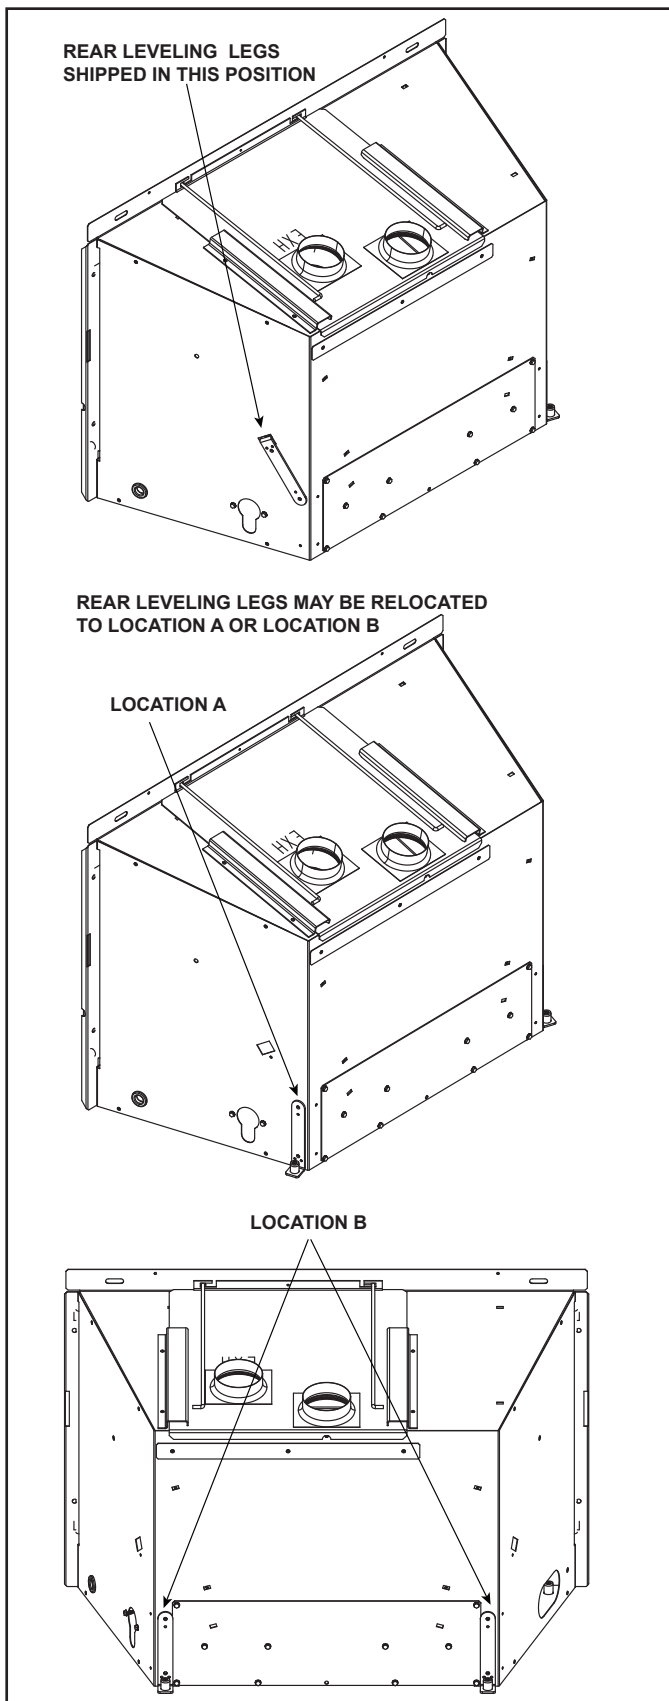

Figure 8.3
- Remove rear leveling legs from shipping position and relocate to one of the positions shown in Figure 8.3. Remove both screws that secure the leveling leg to the side of the appliance. Turn the leveling leg around so that the foot is facing out and downward. Line up the two holes on the leg with the holes on the appliance and secure with screws. See Figure 8.3.